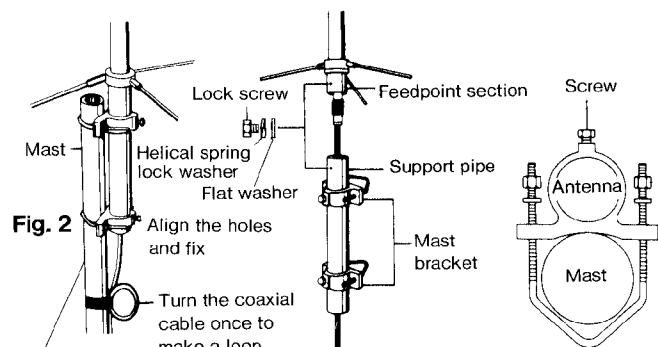

Fig. 2
9. Attach assembled antenna on a mast by taking whole balance into account as shown in Fig.2. Turn coaxial cable once to make a loop at right below the antenna to escape excess load from the cable.